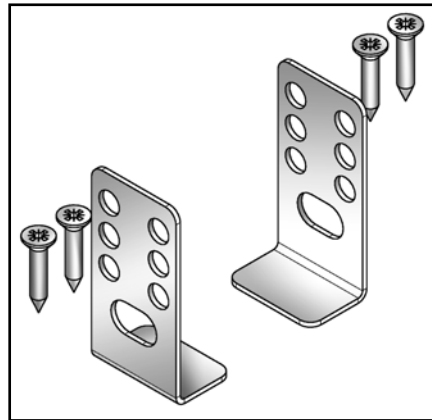

Fig. 2
- No. 2 rear mounting brackets + no. 4 chipboard screws 4.5×16 mm (Fig. 2).